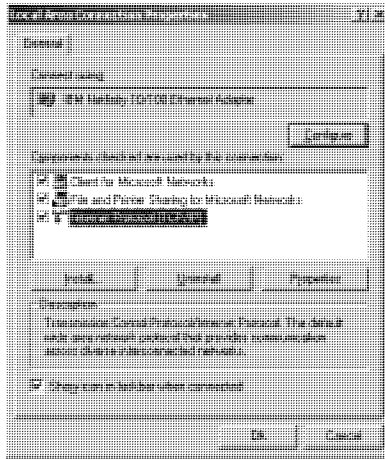

Figure 8: Local Area Connection Properties Window
5. Select **Internet Protocol (TCP/IP)** and click the Properties Button (see Figure 8).